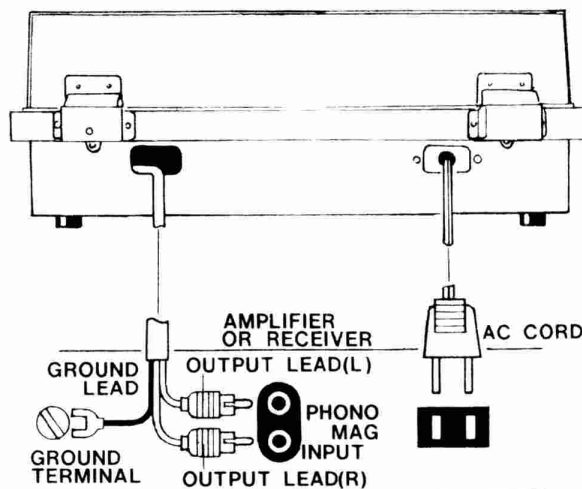

Fig. 13
- Connect the lead marked "L" to the left channel input jack and the lead marked "R" to the right channel jack. The third wire is a ground lead with a split lug on its end. Connect the split lug to the ground terminal on the amplifier (Fig. 13).